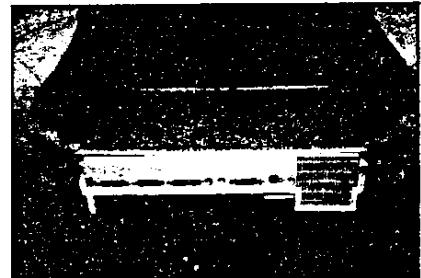

Fig. 2-5. Top Housing Removal
2.3.6 The TOP HOUSING snaps into the bottom housing, so remove by applying a slight outward pressure on the bottom housing, or inward pressure on the top housing, at the rear corners of the computer. See Fig. 2-5. Set the top housing aside.